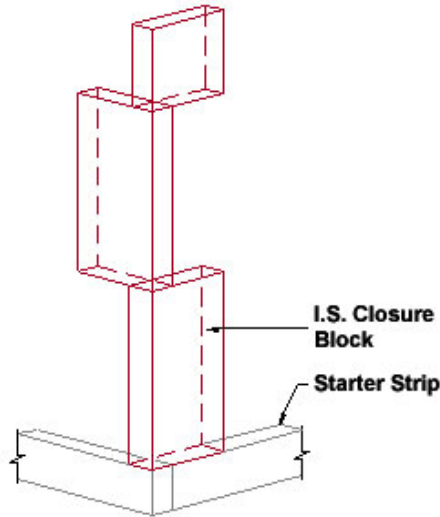

Figure 27
1. Install 6 in (152 mm) wide I.S. Closure Blocks around all openings and tops of compartments. Install 12 in (305 mm) wide Closure Blocks on alternating sides of outside corners (see Figure 27), at vertical compartment boundaries (see Section VIII.C), and vertical system terminations.
- a. Install 12 in (305 mm) wide I.S. Closure Blocks on alternating sides of inside and outside corners as shown in Figure 27.